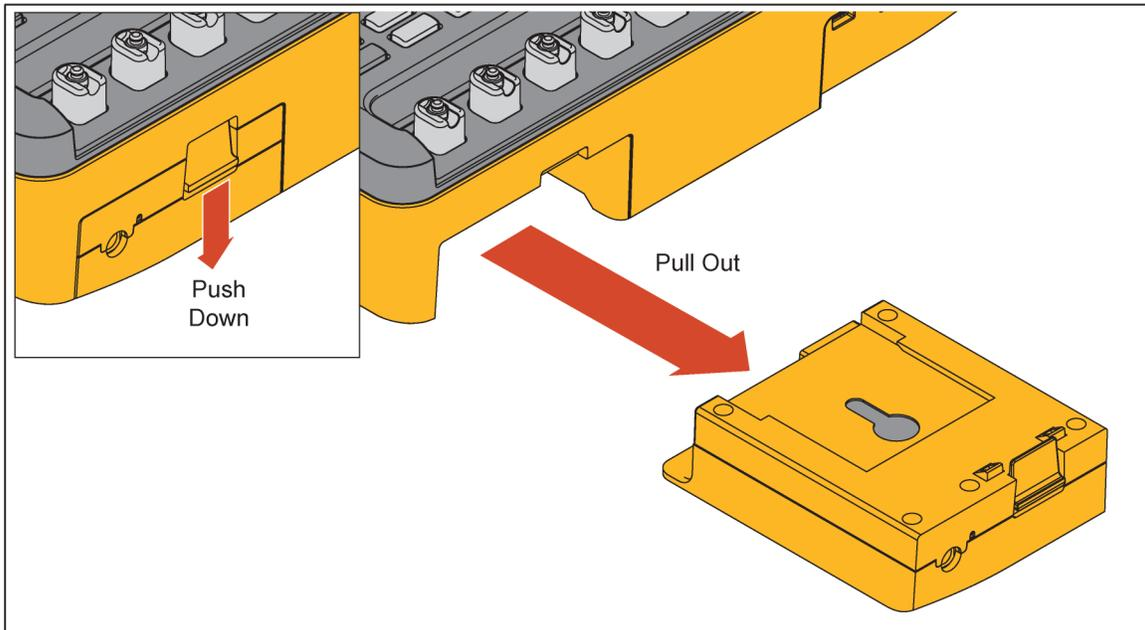

Figure 60. Battery Removal
1. Push down on the battery pack latch as shown in Figure 60.